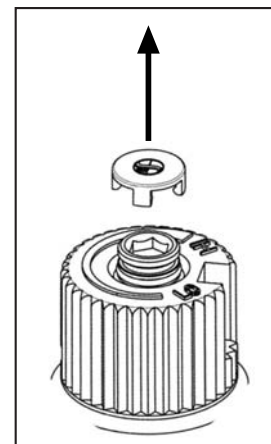

Figure 9: Removing valve cap.
a) Remove the black protection cap from the HI/LO knob by hand shown in Figure 9.
g) Re-attach the black protection cap that was removed in step a (Figure 9).